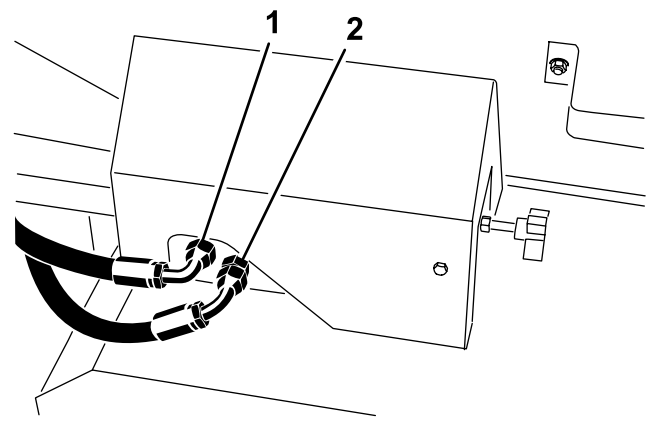
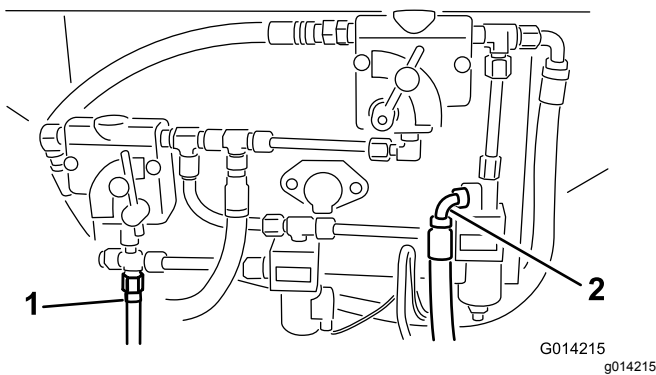
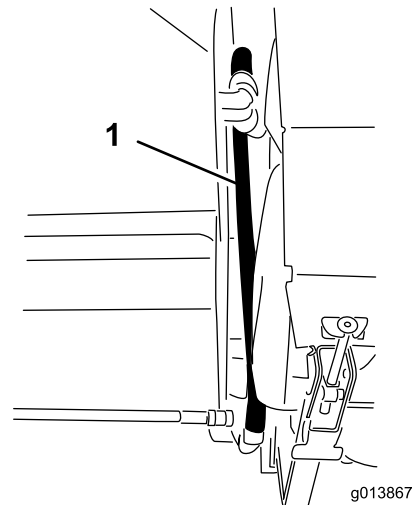
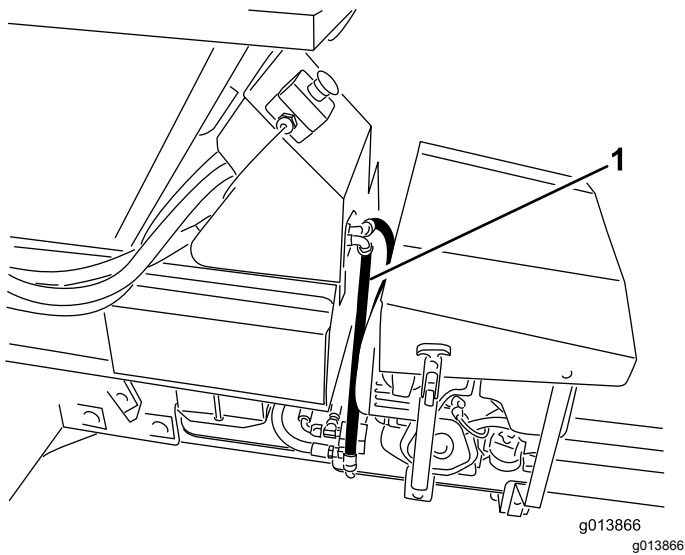

Figure 15
Figure 14
Figure 16
Figure 17
40. Identify the pressure and return connections on the ProPass base model. Refer to Figure 14 for the SH versions and Figure 15 for the EH versions.
41. If pressure and return hoses were previously installed at the locations shown in Figure 14 and Figure 15, remove them.
42. Connect the hydraulic hoses to the hydraulic control panel. Refer to Figure 14 and Figure 16 on the SH versions and Figure 15 and Figure 17 on the EH versions.